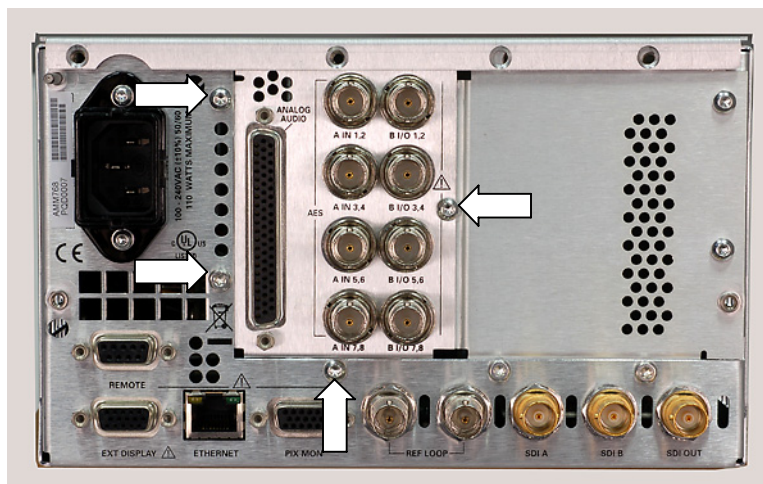

Figure 7: Removing the audio-options rear panel screws
1. Remove the four screws from the audio-options rear panel. See Figure 7. Save the screws for reinstallation.